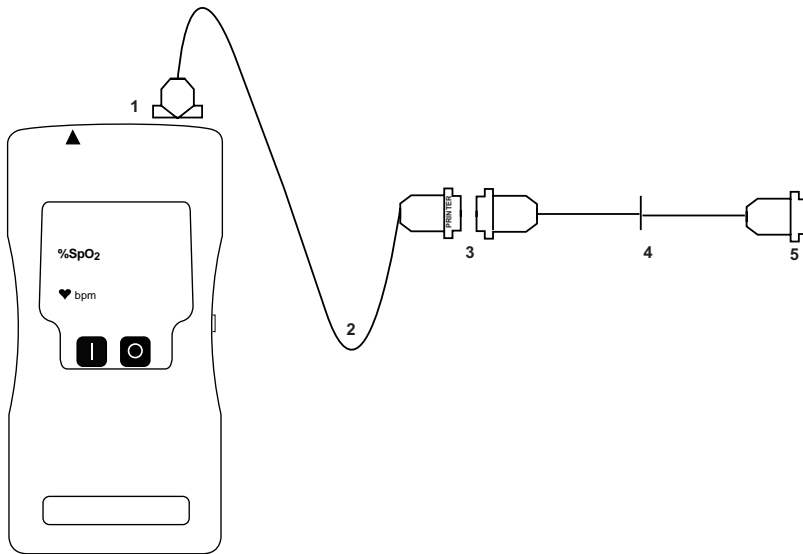

Figure 5.1: Connection from Oximeter to PC
4. Using the PC adapter cable (part #3339), connect the 9-pin connector of the PC adapter cable to the COM port on the PC as shown in figure 5.1.